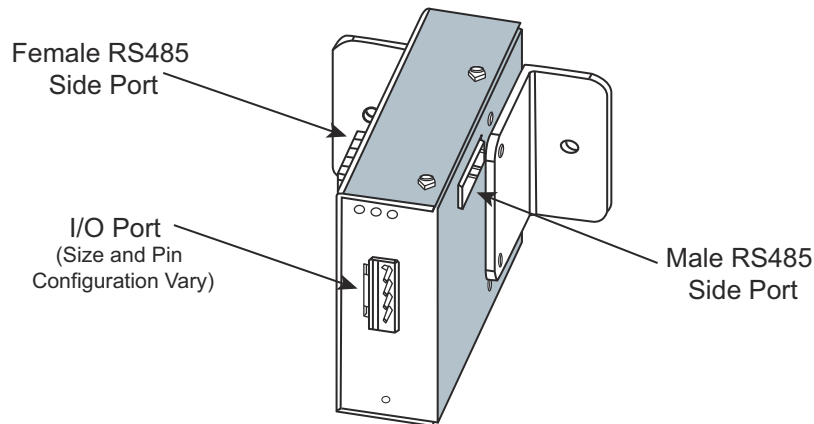

Figure 5.8: I/O Module Communication Ports
- Insert the other end of the cable into the I/O module's female RS485 side port (see Figure 5.8). The connectors fit only one way into the ports.
1. Connect the + and - terminals on the Nexus® meter to the + and - terminals of the female RS485 port. Connect the shield to the shield (S) terminal. The (S) terminal on the Nexus® meter is used to reference the meter's port to the same potential as the source. It is not an earth-ground connection. **You must also connect the shield to earth-ground at one point. Vous devez également connecter l'écran à la terre à un moment donné.**